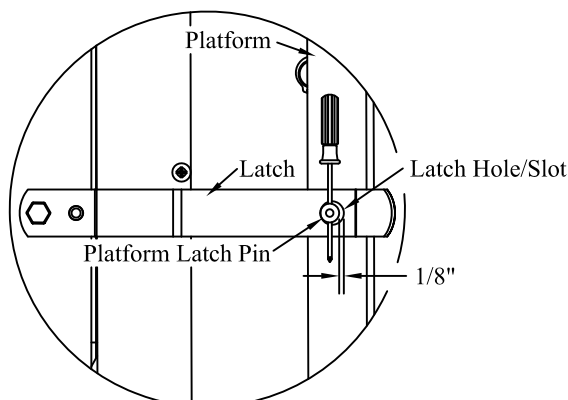

Figure 4: Platform latch pin position.
6. **Position** each latch pin in the latch hole/slot (Figure 4):